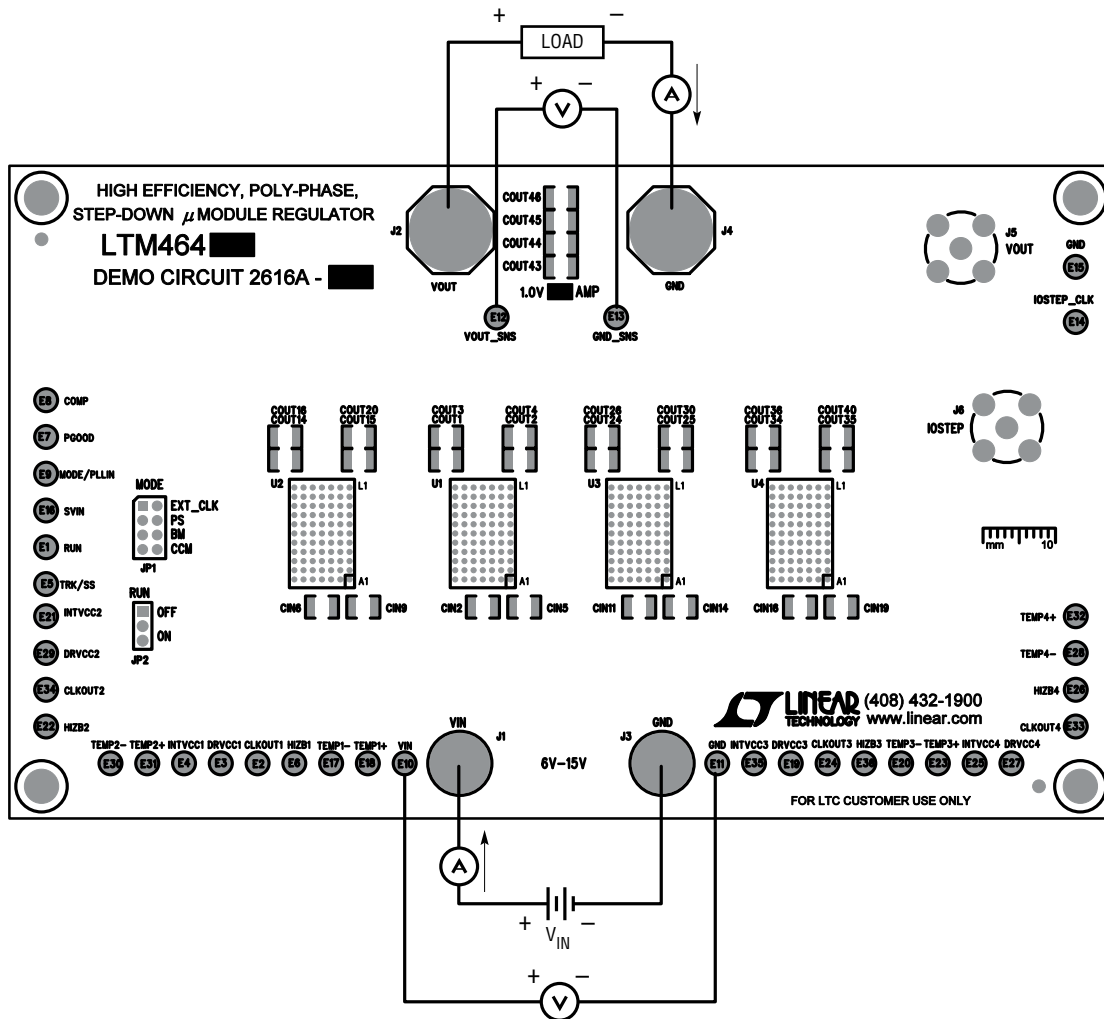

Figure 1. Measurement Setup of DC2616A-B
Demonstration circuit DC2616A-B is an easy way to evaluate the performance of polyphase operation of the LTM4645EY. Due to the high input/output current, the user should select the proper input supply/load/cable which can sustain the full load operation. Please refer to Figure 1 for proper measurement equipment setup and follow the procedure below:
2. With power off, connect the input power supply, load and meters as shown in Figure 1. Preset the load to 0A and V_{IN} supply to 12V.